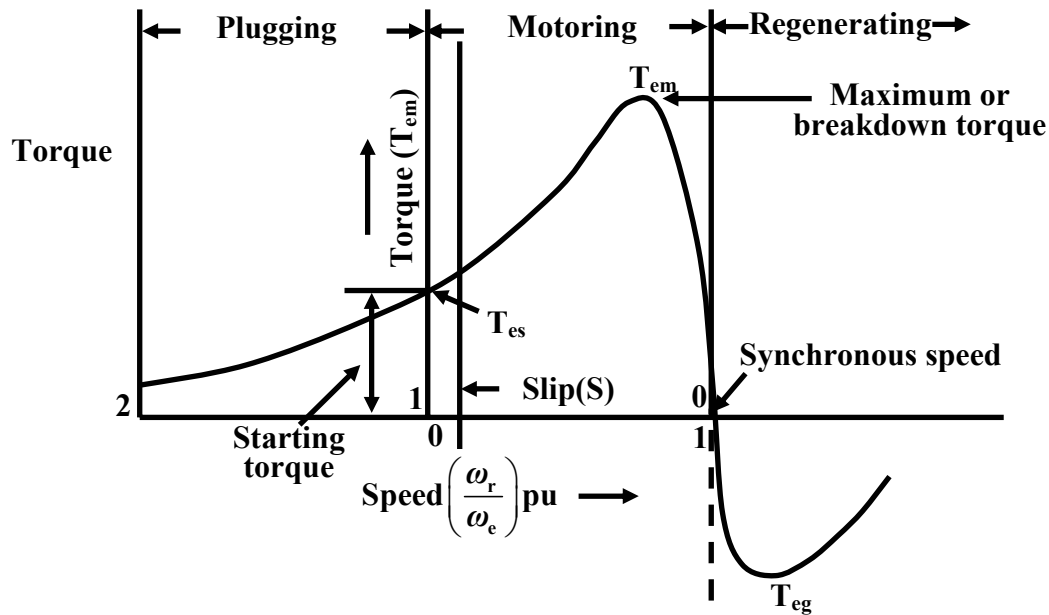

Fig. 34.2 Torque-speed curve of induction motor
The torque  $T_e$  can be calculated as a function of slip  $S$  from the equation 1. Figure 34.2 shows the torque-speed ( $\omega_r / \omega_e = 1 - S$ ) curve. The various operating zones in the figure can be defined as plugging ( $1.0 < S < 2.0$ ), motoring ( $0 < S < 1.0$ ), and regenerating ( $S < 0$ ). In the normal motoring region,  $T_e = 0$  at  $S = 0$ , and as  $S$  increases (i.e., speed decreases),  $T_e$  increases in a quasi-linear curve until breakdown, or maximum torque  $T_{em}$  is reached. Beyond this point,  $T_e$  decreases with the increase in  $S$ .
From the torque speed characteristics in Fig. 34.2, it can be seen that at any rotor speed the magnitude and/or frequency of the supply voltage can be controlled for obtaining a desired torque. The three possible modes of speed control are discussed below.
- How can you be in the plugging region of the torque speed curve shown in Fig. 34.2 ?
- B. *How can you be in the plugging region of the torque speed curve shown in Fig. 34.2?*